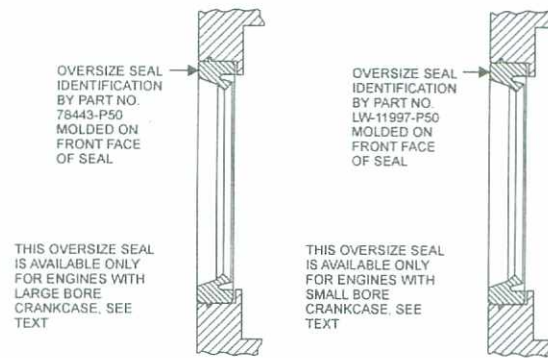

Figure 2. Identification of Oversize Crankshaft Seal
The .050 inch oversize nose seals are identified by the P/N's 78443-P50 or LW-11997-P50 molded on the face of the seals as shown in Figure 2. Except for the revised outside diameter of the seals, they are identical in other aspects to the standard seals, P/N 78443 and P/N LW-11997.
1. Assemble the split seal on the crankshaft with the front face of the seal (as identified in Figure 2) toward the crankshaft propeller flange.